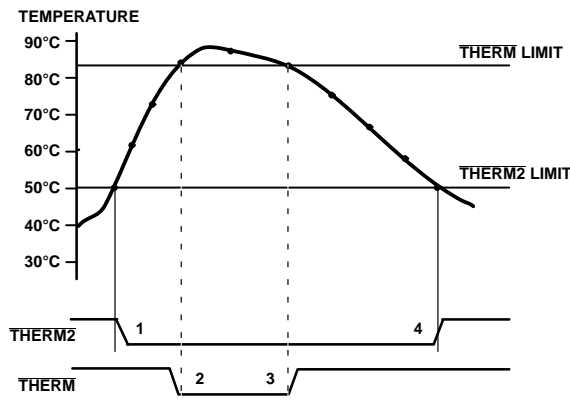

Figure 10. Operation of the $\overline{\text{THERM}}$ and $\overline{\text{THERM2}}$ Interrupts
Figure 10 shows how $\overline{\text{THERM}}$ and $\overline{\text{THERM2}}$ operate together to implement two methods of cooling the system. In this example, the $\overline{\text{THERM2}}$ limits are set lower than the $\overline{\text{THERM}}$ limits. The $\overline{\text{THERM2}}$ output is used to turn on a fan. If the temperature continues to rise and exceeds the $\overline{\text{THERM}}$ limits, the $\overline{\text{THERM}}$ output provides additional cooling by throttling the CPU.
- The $\overline{\text{THERM}}$ output deasserts (goes high) when the temperature falls to $\overline{\text{THERM}}$ limit minus hysteresis. In Figure 10, there is no hysteresis value shown.